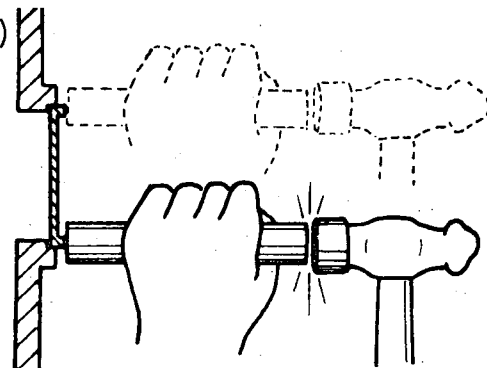

Fig. 3
- b) Install the plugs by tapping their edges with a bronze drift (fig. 3)